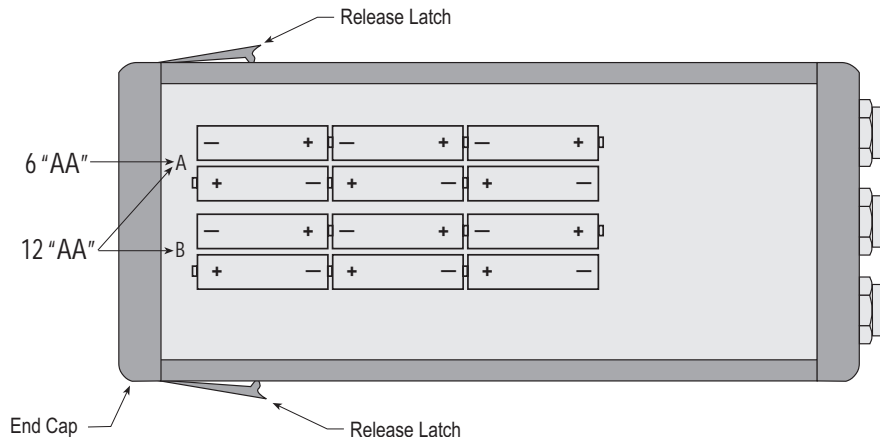

Figure 6. TAMS battery loading
- 3 If using "AA" batteries, insert them into the Control/Display's internal battery compartment located behind the end cap at the opposite end of the Control/Display from the connectors. To open the compartment, lift the two release latches holding the end cap in place and remove the end cap. TAMS will operate with either six batteries loaded into Compartment A or B, or twelve batteries (for longer operating time) loaded into Compartments A and B. Load the batteries as shown in **Figure 6**.